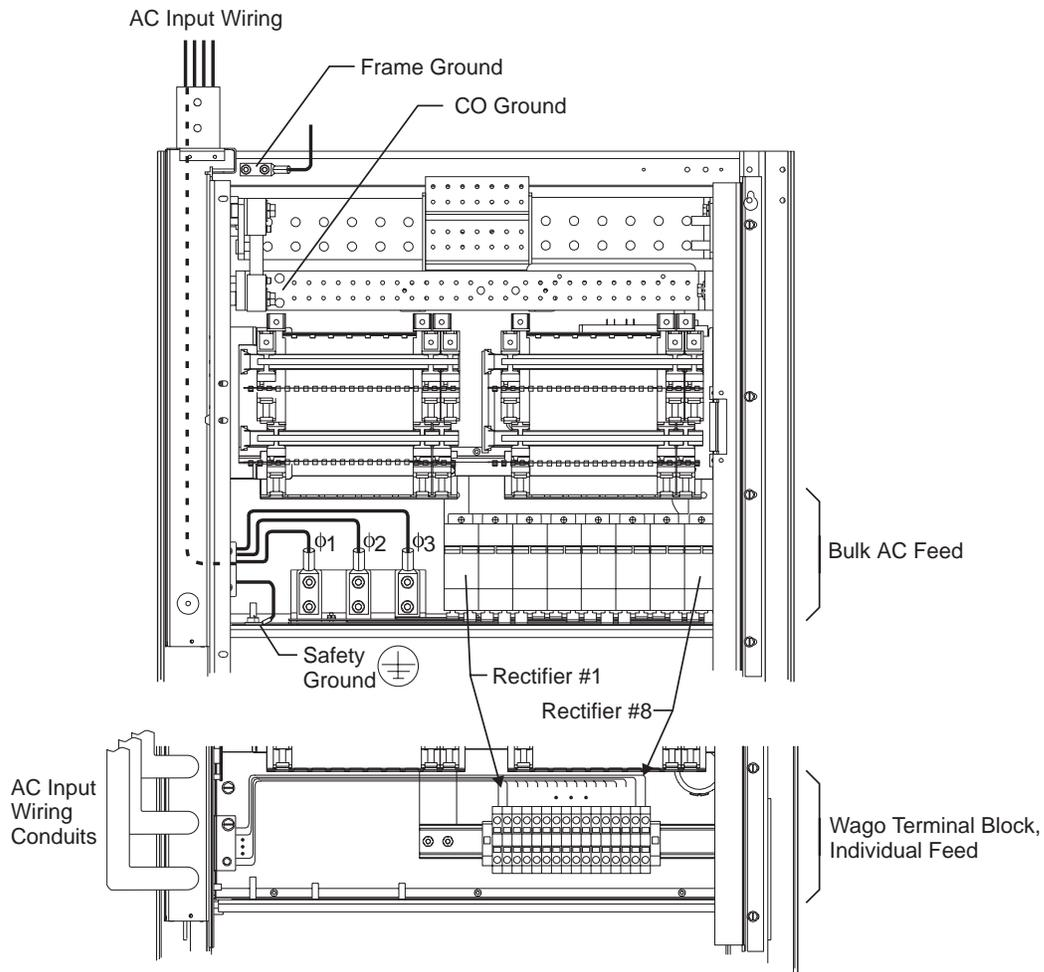

Figure 5-4: AC Cable Routing
The next step is to ground the plant framework. Local grounding practices will determine the grounding method and the size of cable connected to the plant. Use a #12-24 bolt and a double-hole terminal lug for this connection. See Figure 5-4 to locate the connection.
The plant Central Office Ground (CO Ground) should be connected to the building's principal ground point. The conductor size must conform to local standards. Connection to the plant is through the 3/8-inch studs located on the 24-volt distribution return bus. See Figure 5-4 to locate the stud and Table 3-Q for terminal lug information.
5. Pass the three phase conductors and the safety ground down the ac housing and to the studs as illustrated in Figure 5-4 or Figure H1 of drawing T-83324-31; **or**
Connect eight conduit to the side for eight feed to rectifiers. See Figure 5-4. Terminate safety (earth) ground